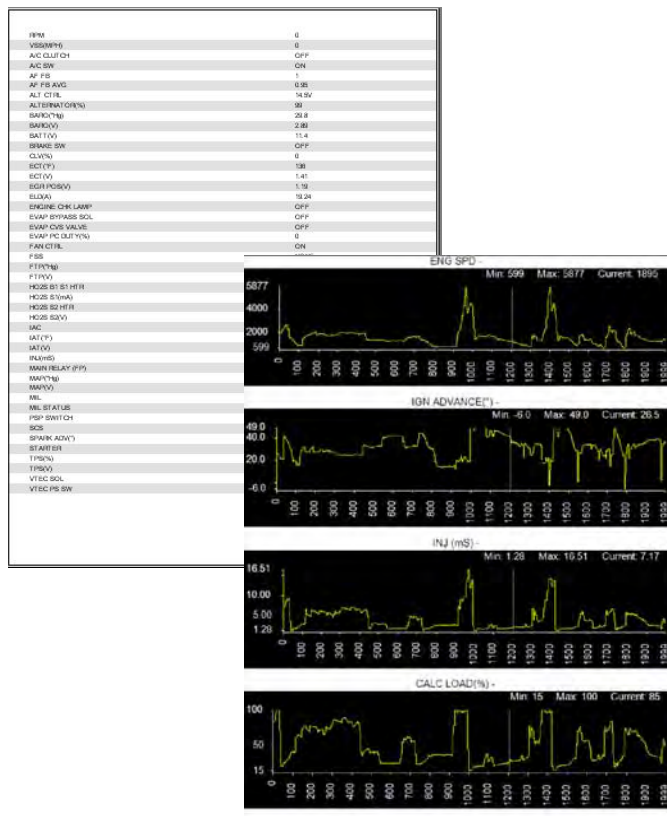

Figure 10-20 Print preview window (text list and graphs examples)
- b. If Print Preview was selected, a preview window opens. Select the printer icon (Figure 10-20) to send the file to the printer.